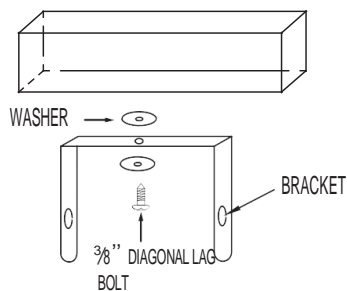

Figure 5a-single-Screw Mounting
Refer to Figures 5a and 5b.
NOTE: If you want to swivel the heater either to the right or left, adding a washer to both sides of the bracket is recommended. A longer lag bolt (not included) may be required to properly secure the unit. See Figure 5a.
1. To turn the unit when it has been installed with a single lag bolt (as shown in figure 5a), simply turn the entire heater as needed. The unit cannot be turned horizontally if it has been installed with 2 lag bolts.